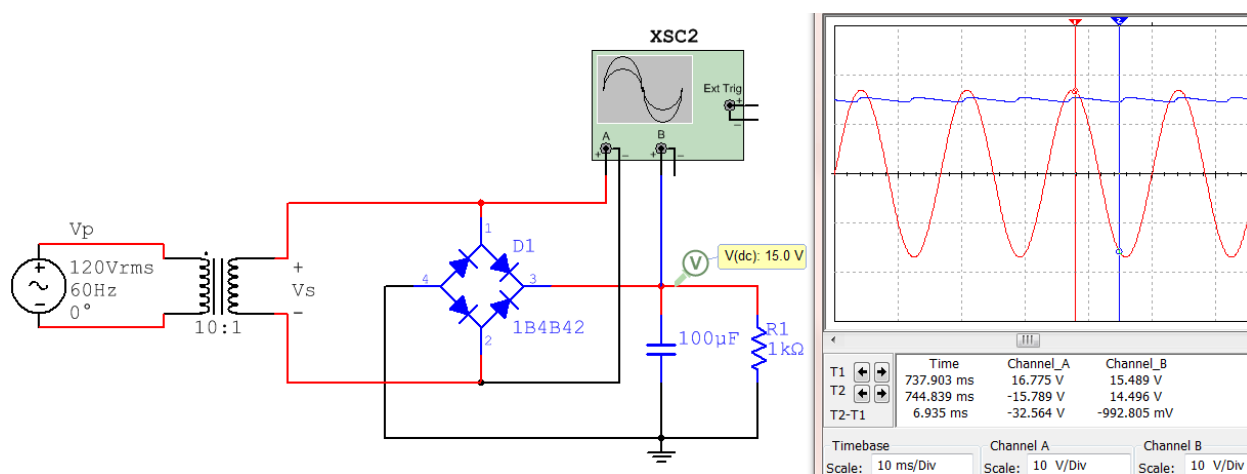

Figure 6.17: Full-Wave Peak Bridge Rectifier.
- Full-Wave Peak Bridge Rectifier (See Figure 6.17)
- V_s = peak input voltage = $120 \cdot \sqrt{2} / 10 = 16.97 \text{ V}$ (16.775 V in Figure 6.17).
- $V_{o,pk}$ = peak output voltage = $V_s - 2 \cdot 0.7 \text{ V} = 15.57 \text{ V}$ (15.49 V in Multisim - Figure 6.17).
- V_r = ripple voltage ($V_{o,pk} - \text{minimum } V_{out}$) = $\frac{V_{o,pk}}{2fRC} = \frac{15.57}{2 \cdot 60 \cdot 1k \cdot 100\mu} = 1.3 \text{ V}$ (~ 1V in Figure 6.17).
- $V_{o,DC}$ = the approximate DC voltage of the output (centerline of the ripple). In Figure 6.17 $v_{o,DC}$ is equal to $15.57 - 0.5 \cdot V_r = 14.92 \text{ V}$. The DC voltage probe in Figure 6.17 measures the DC voltage as 15 V.